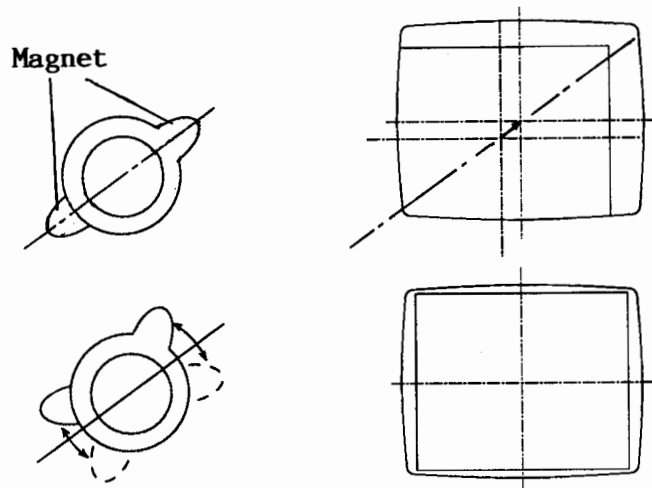

Fig. 3.4.4.3 Back Raster Centering
- (h) With **R352 [V.SIZE]** control, adjust the vertical diameter of the radar scope circle to 274 ± 2 mm (20 inches). If upper and lower radii are unbalanced as shown in Fig. 3.4.4.4 (a), adjust **R353 [V.LIN]** to make correct marker rings in real circles.